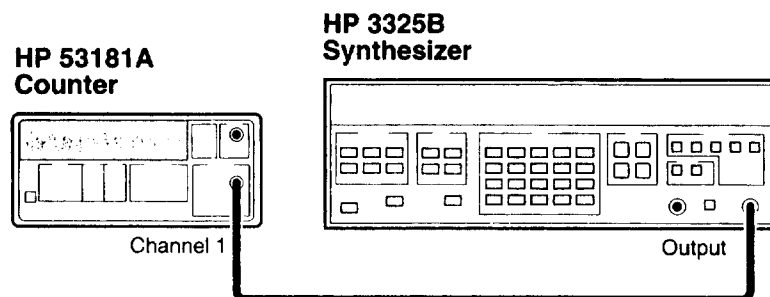

Figure 1-11. Trigger Level Test Setup
- 1 Connect the output of the HP 3325B to Channel 1 of the Counter as shown in Figure 1-11.